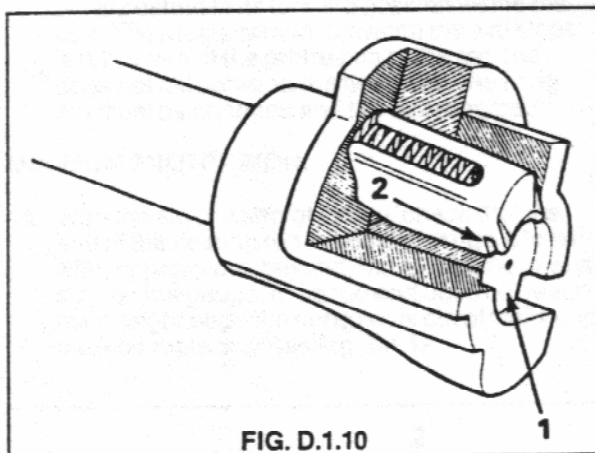

FIG. D.1.10
11. Ensure that gap between underside face of extractor lip is between 1,54 mm and 2,00 mm, by using extractor gap gauge. See Fig. D.1.10